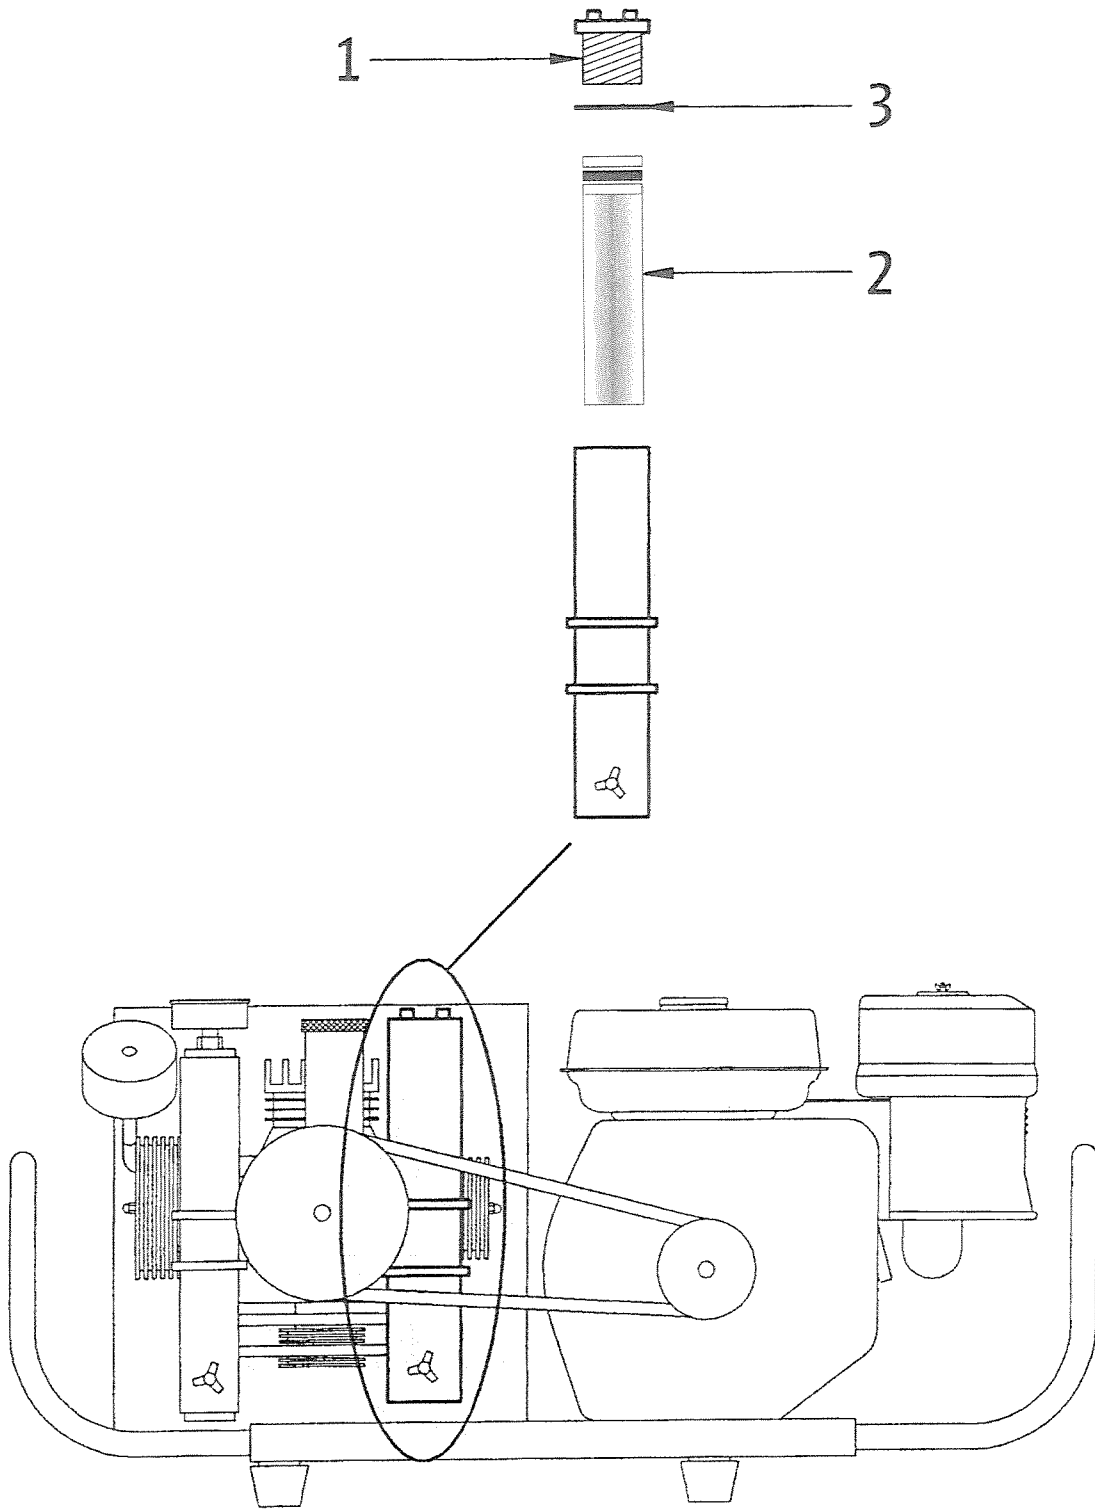

Fig. 15 Replacement of Filter Cartridge
Make sure the O-rings are OK. Replace if necessary. (See figure 15, No. 3).
- 1) Unscrew cap No. 1 in figure 15, using a screwdriver or a lever between the two studs on the cap.
- 3) Check the O-rings on the Filter Cap (See figure 15, No. 3).